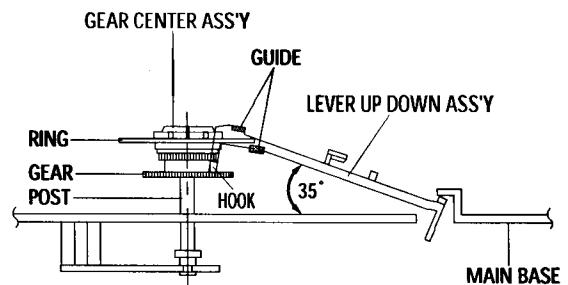

Fig. 1-22 Lever Up Down Ass'y Removal
- 1) Insert the Lever Up Down Ass'y ① in the rectangular holes on Main Base as shown in Fig 1-22.
- 2) Lift the Lever Up Down Ass'y ① about 35 degree.(Refer to Fig 1-22)
- 3) Insert Ring of the Gear Center Ass'y ② in the Guide of the Lever Up Down Ass'y ①.
- 4) Insert the Gear Center Ass'y ② in the post on Main Base.
- 5) Push down the Lever Up Down Ass'y ① for locking of the Hook.